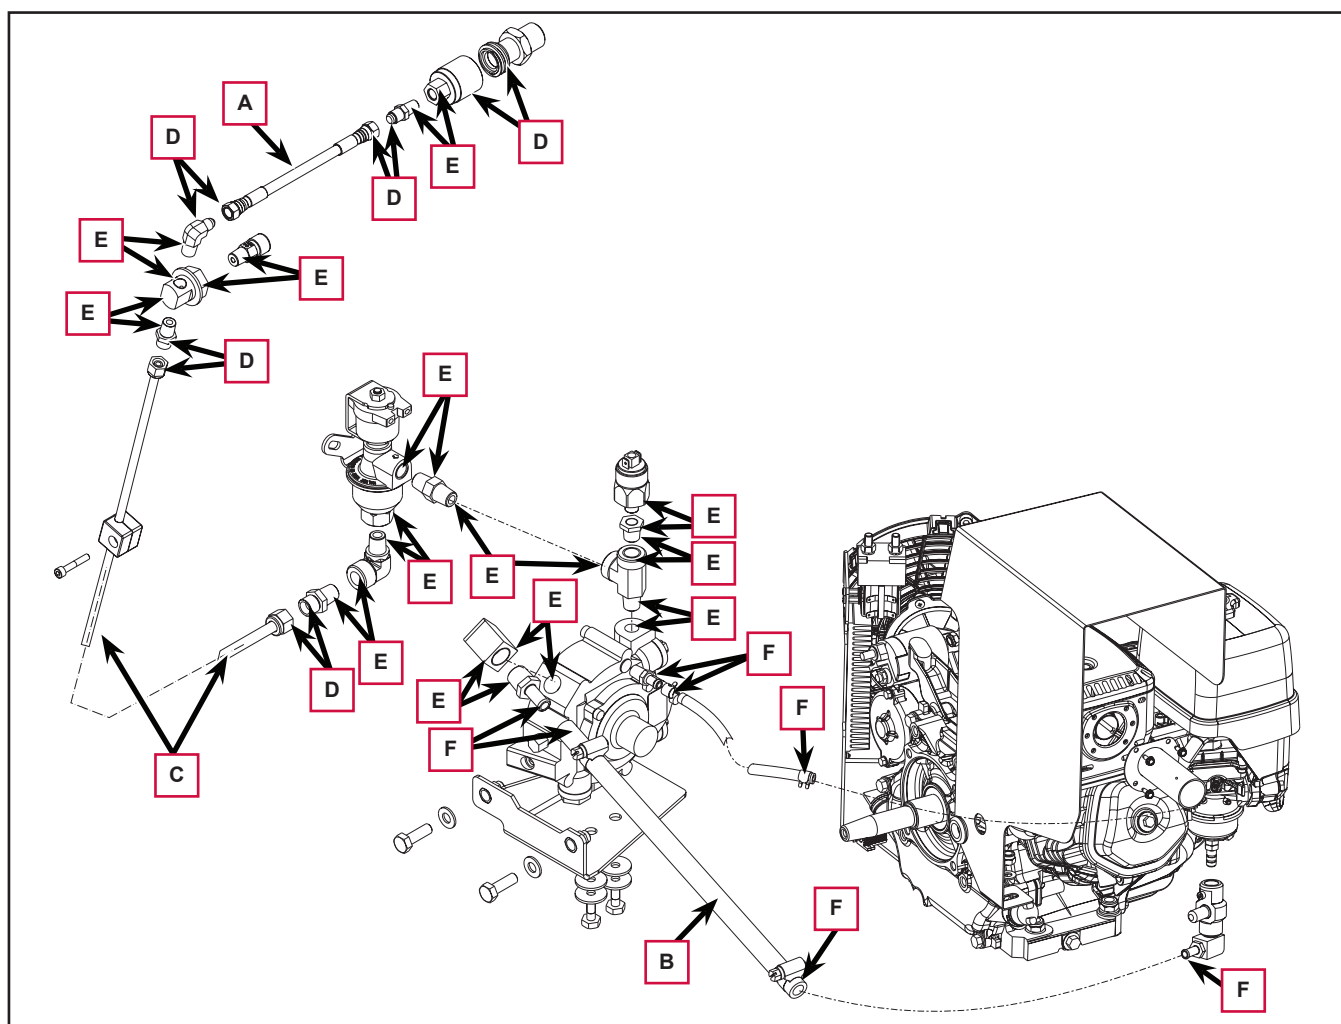

Figure 17
7. Loosen the clamps (A, Figure 17) and disconnect the terminals (B) of the pressure regulator lines (C).